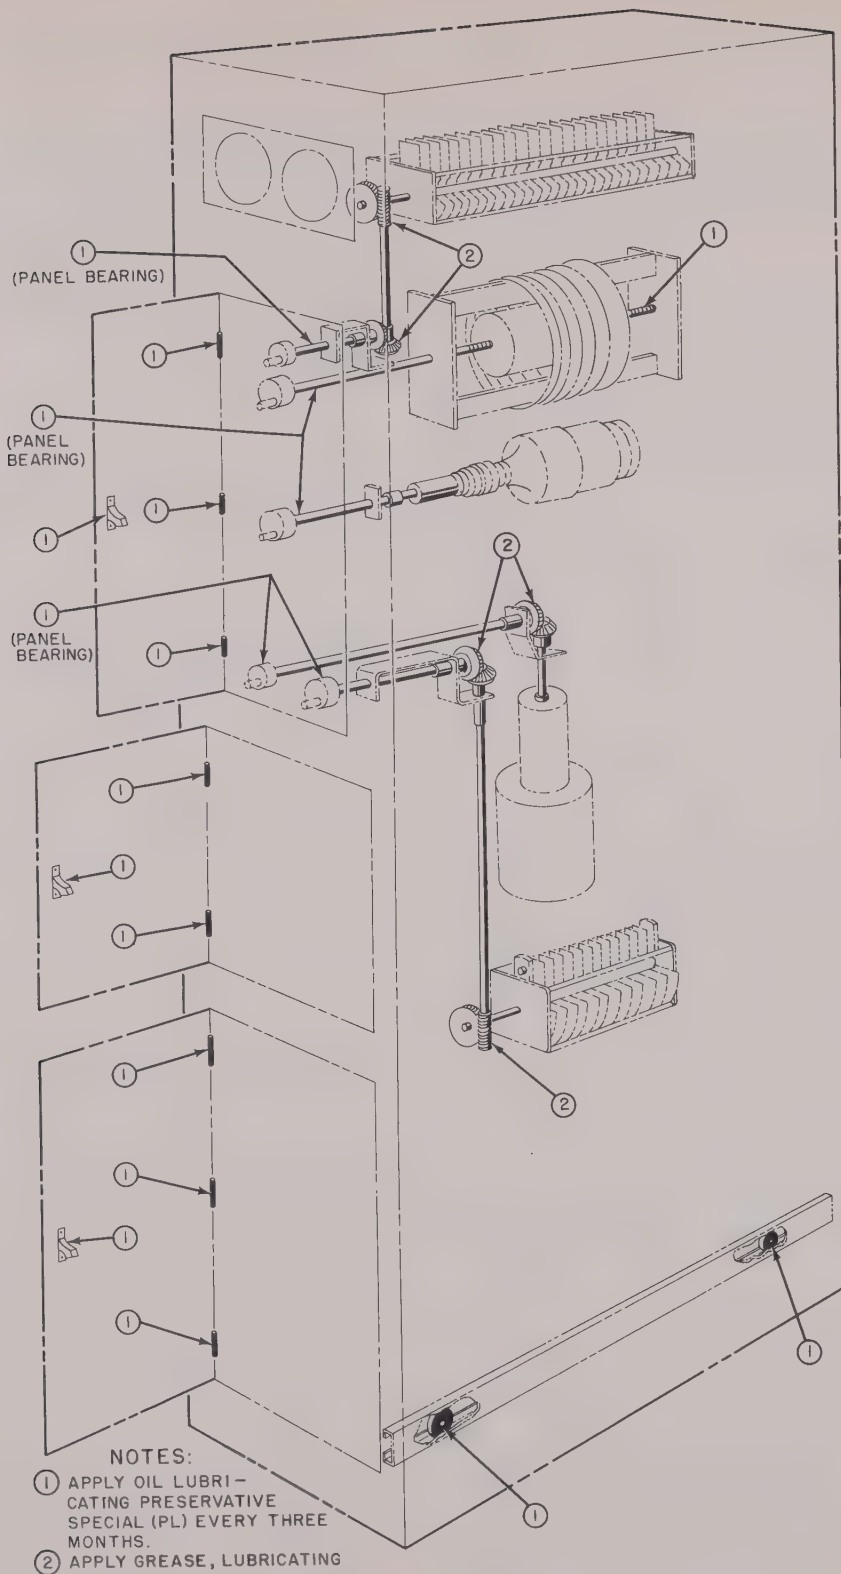

Figure 36. Radio Transmitter Model 96D, lubrication
a. General. (1) The type of lubricant to be used, the interval, and specific instructions for each part are given for the transmitter and rectifier in figures 36 and 37.
(2) Gasoline will not be used as a cleaning fluid for any purpose. When the equipment is overhauled or repairs are made, parts should be cleaned with dry cleaning solvent.
(3) Carbon tetrachloride will be used as a cleaning fluid only in the following cases: for cleaning electrical equipment where inflammable solvents cannot be used because of fire hazard and for cleaning electrical contacts including plugs, relay contacts, switch contacts, etc.
b. Radio Transmitter Model 96D. Open the doors on the front panel as shown in figure 36. Wipe the door hinges with a dust-free, lint-free cloth and then lubricate as indicated in figure 36. Wipe off any excess lubricant. Turn the slide-locking handle one-quarter turn to the left and pull the slide out to the limit of its travel. Wipe off the slide rollers with a lint-free cloth and lubricate as indicated in figure 36. Wipe off excess lubricant. Clean the gears with a lint-free cloth moistened with dry cleaning solvent. Lubricate as indicated in figure 36.